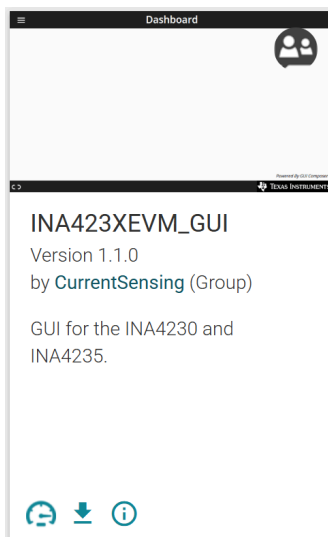

Figure 3-2. GUI Composer Application
3. Open the *GUI Composer* application to launch the GUI from the web browser (see Figure 3-2).
- Optionally, to download the GUI for offline use, select the  icon in the *GUI Composer* application and follow the prompts (see Figure 3-2).